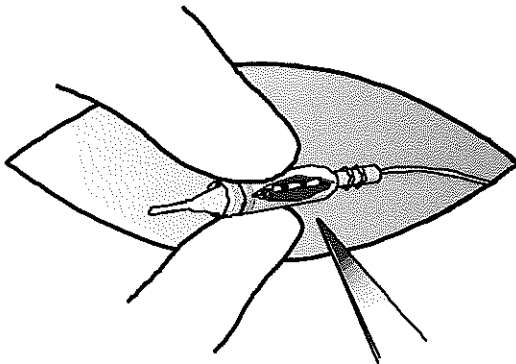

Figure 34: Cut connector boot to expose setscrew.
4. Cut the connector boot over the lead cap to expose the setscrew (Figure 34).